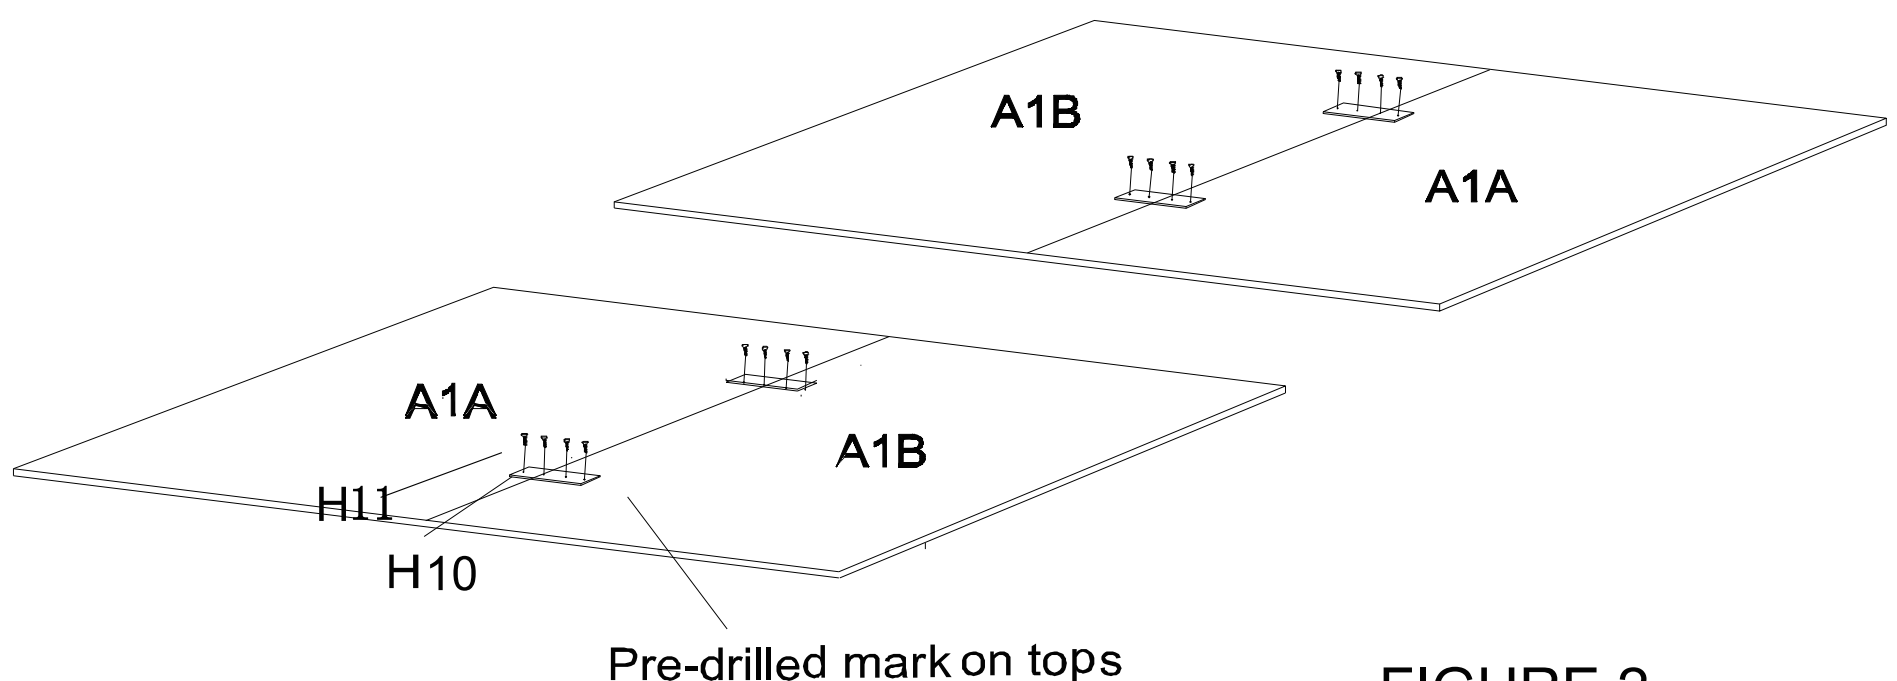

FIGURE 2
STEP2: Attach bracket H10 to the table tops A1A & A1B and secure with screws H11 as shown in FIGURE 2. Repeat in the same manner to the other 2 tops.